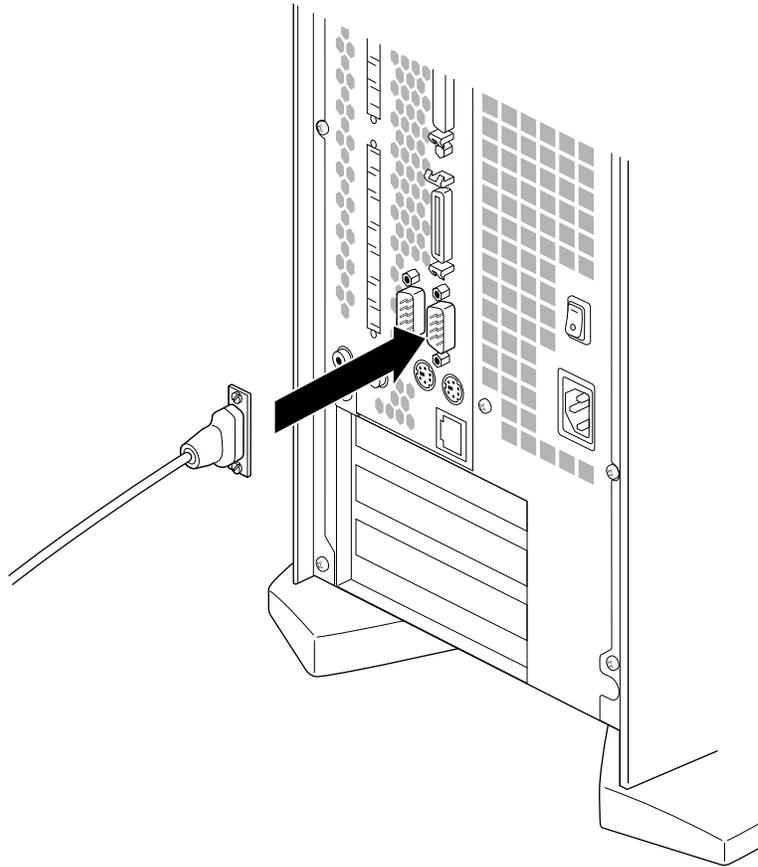

Figure 4-7 Attaching a Serial Cable to Port 1 of the Origin200 Server
3. Attach the DB9 connector to serial port 1, as shown in Figure 4-7.